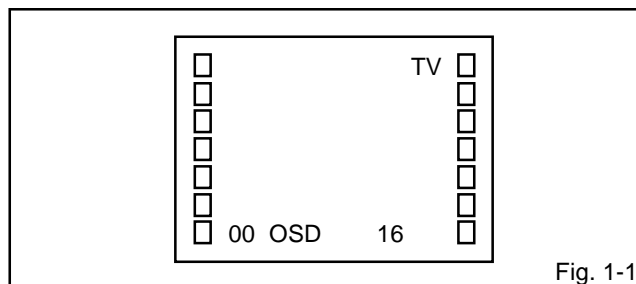

Fig. 1-1
2. Press both VOL. DOWN button on the set and the Channel button (9) on the remote control for more than 2 seconds to appear the adjustment mode on the screen as shown in Fig. 1-1.
4. Activate the adjustment mode display of **Fig. 1-1** and press the channel button **(03)** on the remote control to select "V.VCO".
3. Activate the adjustment mode display of **Fig. 1-1** and press the channel button **(02)** on the remote control to select "RF AGC".